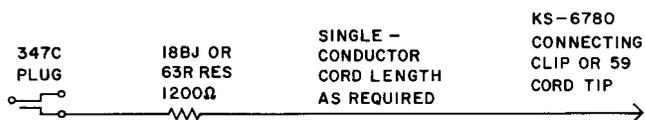

Fig. 2—Patching Cord
1.16 Test F is based upon the use of a special patching cord to be made up locally as shown in Fig. 2.
2.09 Special patching cord made up locally as shown in Fig. 2.